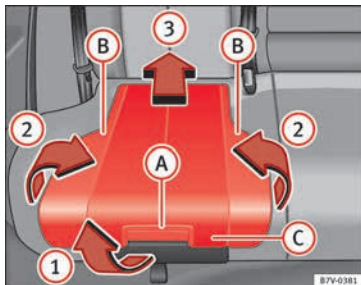

Fig. 94 Integrated child seats. lift up the cushion
- Pull the unlock lever **»» Fig. 94 (A)** on the cushion in the direction of the arrow **»» Fig. 94 (1)**.
- Fold both sides **»» Fig. 94 (B)** up in the direction of the arrow **»» Fig. 94 (2)**.
- Push the cushion **»» Fig. 94 (C)** back in the direction of the arrow **»» Fig. 94 (3)** until it engages.